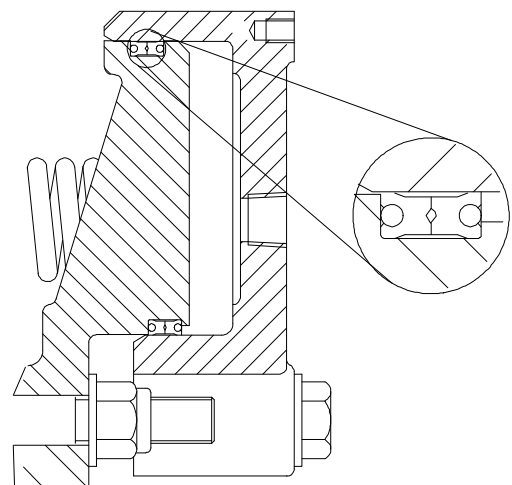

Figure 10
- 4.6.4 Insert new seals into the grooves, noting the orientation of the seals per Figure 10.
- 4.9.2 Lubricate the seals (21)(23)(114) with Dow Corning 55M O-ring lubricant, and install them into the seal grooves on the piston (33). Note the orientation of the seal lips, per Figure 10. Lubricate the seal surfaces in the mounting flange / cylinder (112) and evenly insert the piston into the mounting flange / cylinder.
- 4.9.23 Lubricate the seals (21)(23) with Dow Corning 55M O-ring lubricant, and install them into the seal grooves on the spring housing (16). Note the orientation of the seal lips, per Figure 10.